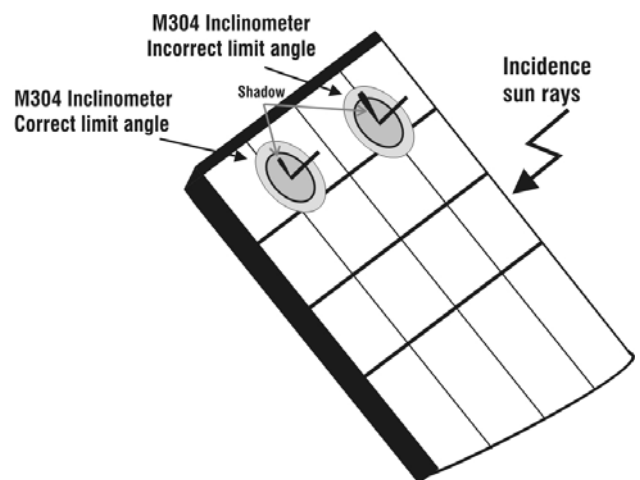

Fig. 8: Positioning of M304 inclinometer
11. Mount the M304 (inclinometer) supplied accessory, position and hold it on the plane of module. **Verify that the sun shadow falls on the disc within the “limit internal circle” on the disc itself (Fig. 8). If this is not the case the incidence angle between sun rays and the module surface is too high and not complying with the test conditions declared by the module manufacturer. As a consequence the measurements performed by the meter are not ok and all measurements steps shall be repeated at another daytime.**